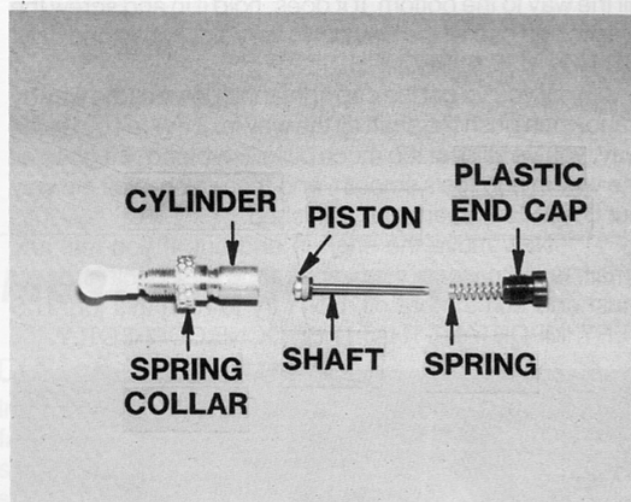
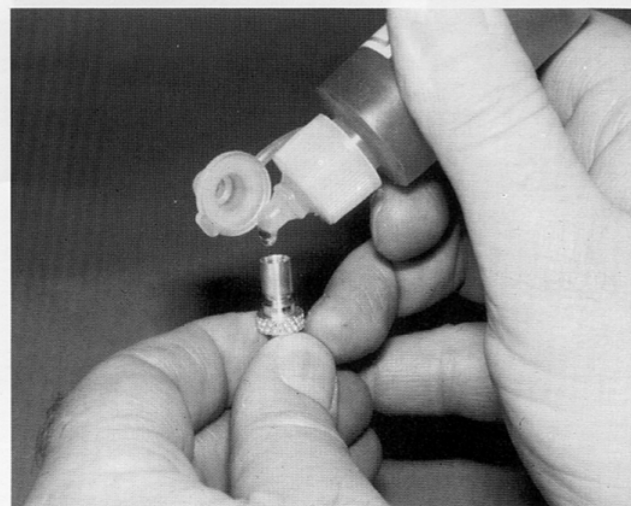

Fig. 42
Fig. 43
□ **Figs. 42 & 43**—The parts go into the shock as shown. First, hold the shock body so it's almost upright, as in Fig. 43, at a slight angle. Put shock oil in SLOWLY, letting it run down the inside wall to prevent air bubbles. Fill with oil to the BOTTOM of the threads. Keep shock upright.